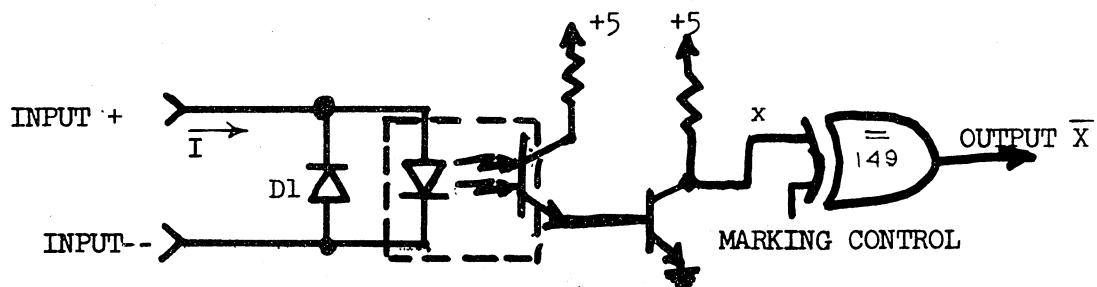

Figure 4.2 Current Loop Receive Logic
The current loop receive circuit in simplified form looks like figure 4.2.
As shown in Figure 4.2, diode D1 will protect the LED against a negative voltage. The receive circuit would have the common output, TRDAT, and the common point of the power supplies as its two inputs. This is shown in a simplified form as follows.
The restraint logic is associated with inputs RESH, RESL and F8. In addition, soldered wire jumpers E9-E14 are associated with the current loop restraint logic. If a jumper is soldered from E13 to E14 the current loop restraint signal will be enabled. Further, if an external loop supply is used E9 to E12 would need to be jumpered. In this configuration, the current loop restraint circuit looks like the current loop receive as shown in Figure 4.2 of section 4.3.12. Provided the marking control is high (no jumper), current flowing in the restraint loop will generate a high signal on the Restraint (A) line. To restrain transmission, an external device will open the restraint loop (space) which will inhibit further character transfers from the computer to the UART Tx Buffer. As before if the marking jumper is in, the sense changes such that no current flow is normal and a current flow causes restraint.